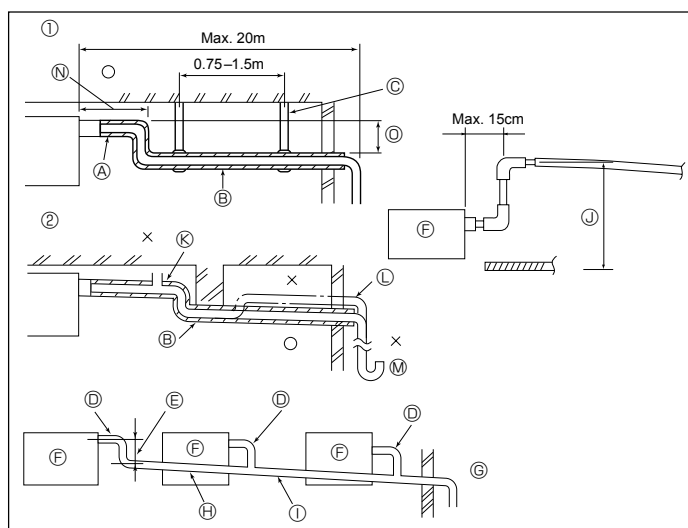

Fig. 3-4
3.3. Drain piping work (Fig. 3-4)